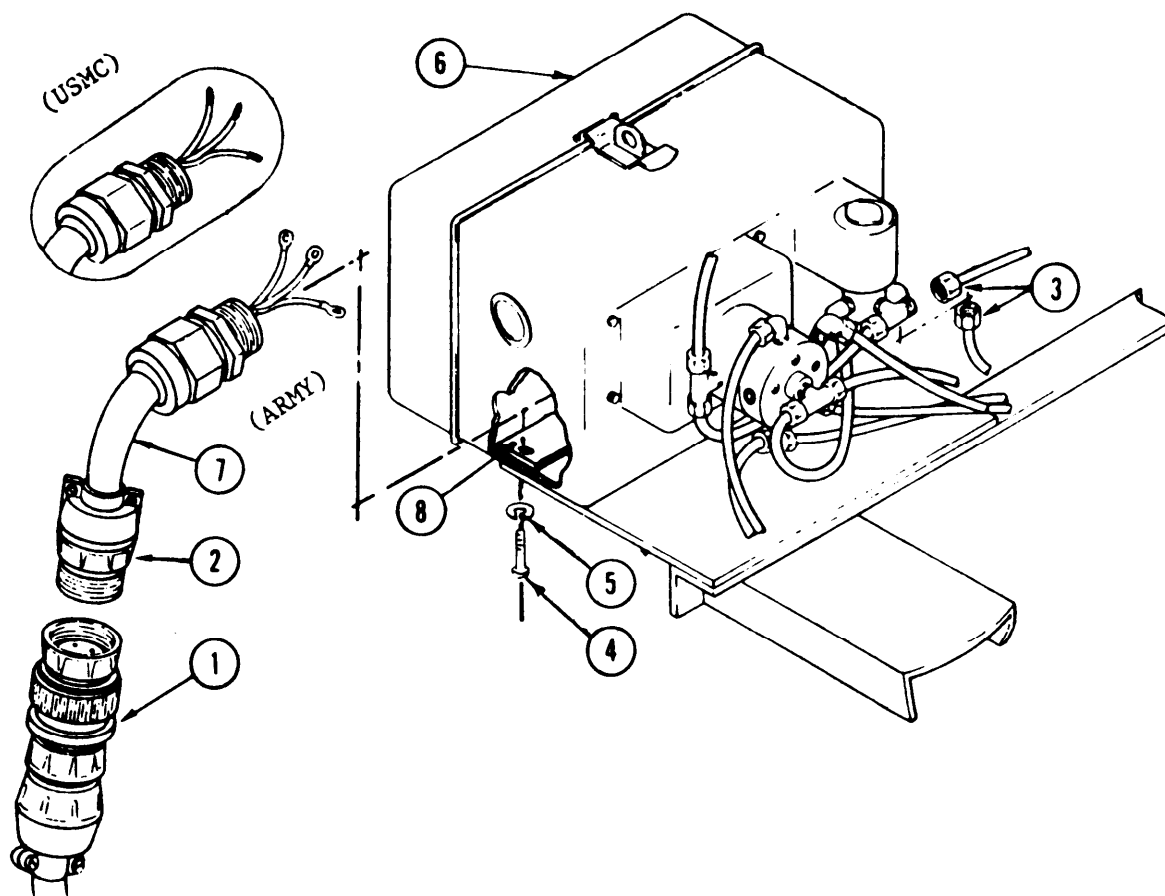

Figure 2-60. Backwash Timer
b. Removal. (Figure 2-60)
- (4) Connect thirteen hose coupling nuts (3). (Figure 2-60)
- (5) install backwash timer cable (7) to backwash timer in accordance with paragraph 2-63.
- (6) Connect control box connector (1) to backwash timer power connector (2).